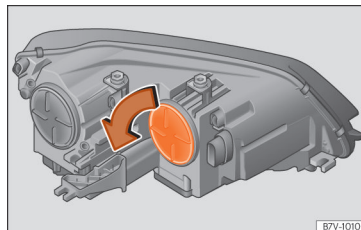

Fig. 64 In the engine compartment: turn signal cover.
① Turn signal
- Rotate the cover  **Fig. 64** in the direction of the arrow and remove it.
- Rotate the cover  **Fig. 64** in the opposite direction to the arrow as far as it will go.
② Cornering light